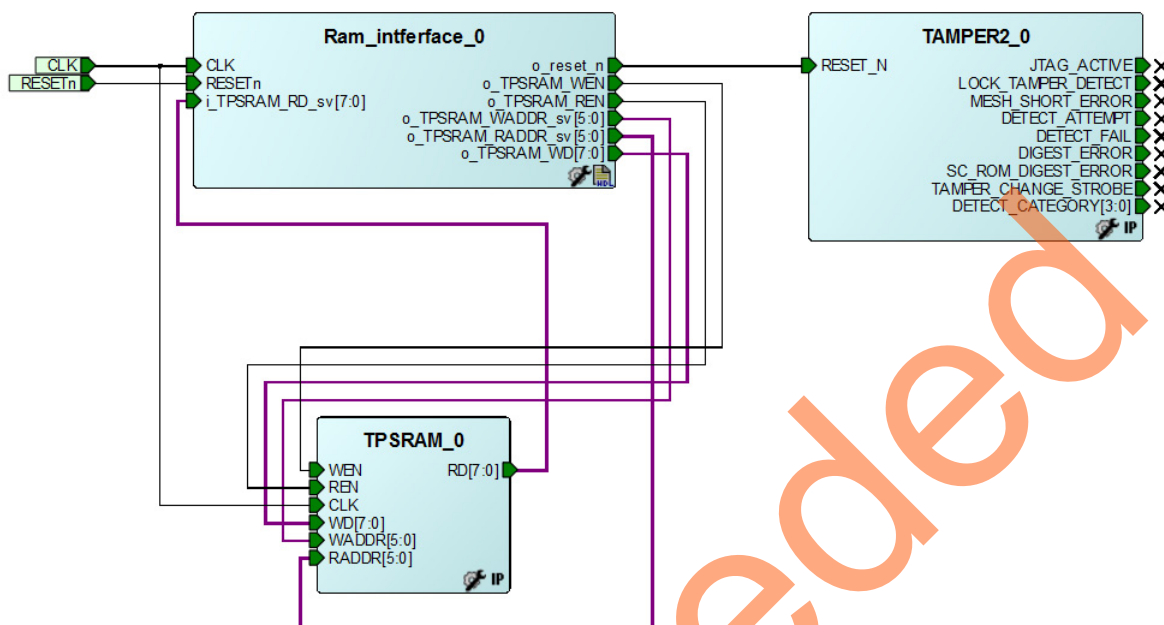

Figure 29 • Dev_Restart_after_ISP_blk SmartDesign
6. Make the connections for **Tamper Macro**, **FSM**, and **TPSRAM**, as shown in Figure 29.